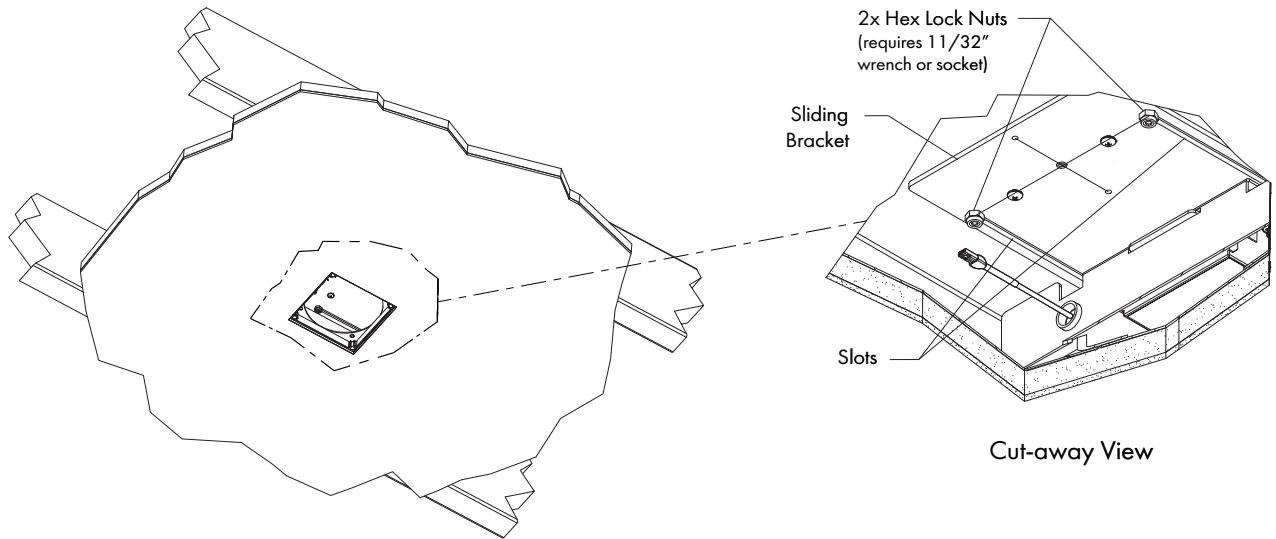

FIG 10.1 Sliding Bracket Adjustment
- STEP 2 Locate and loosen (DO NOT REMOVE) 2x Hex Lock Nuts as shown in **FIG 10.1.**